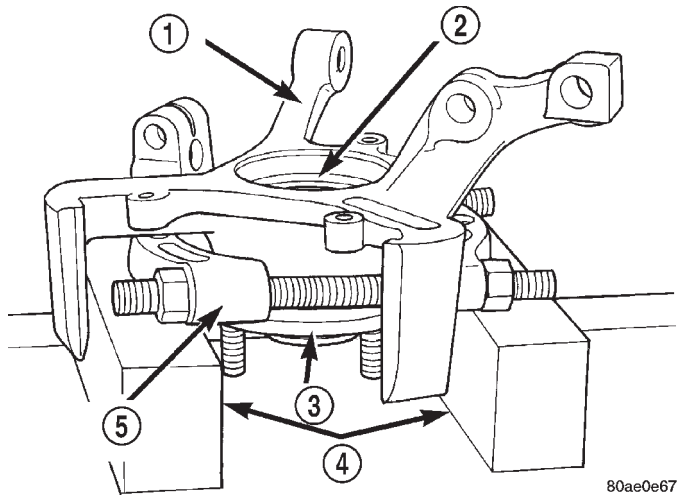

Fig. 34 Steering Knuckle Supporting For Hub Removal
(6) Place the steering knuckle in an arbor press supported by the bearing splitter as shown (Fig. 34).